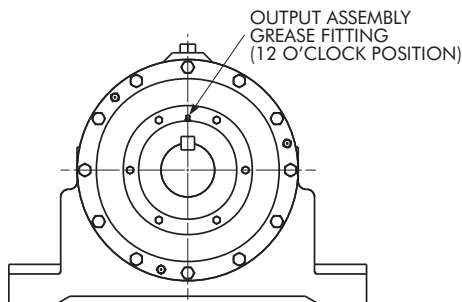

FIGURE 3
- 2c. Locate output assembly seal grease fitting in 12 o'clock position. Reference Figure 3.